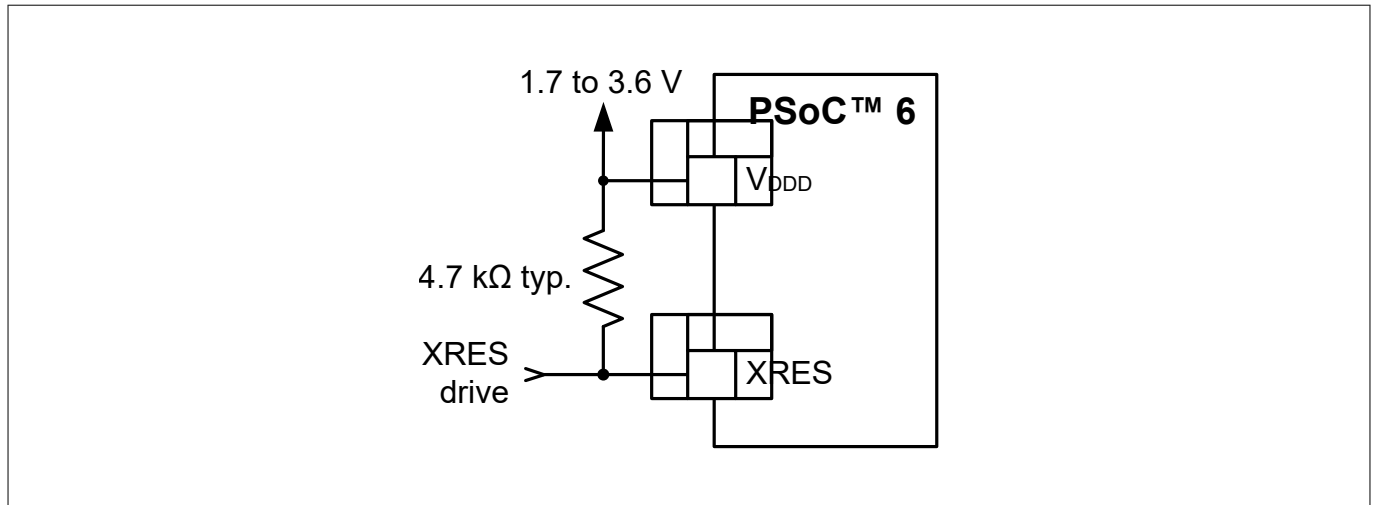

Figure 6 XRES connection diagram
- External reset dedicated pin (XRES) to reset the device using an external source. The XRES pin is active low. It can be connected either to a pull-up resistor to V_{DD} , or to an active drive circuit, as Figure 6 shows. If a pull-up resistor is used, select its value to minimize current draw when the pin is pulled low; 4.7 kΩ to 100 kΩ is typical.